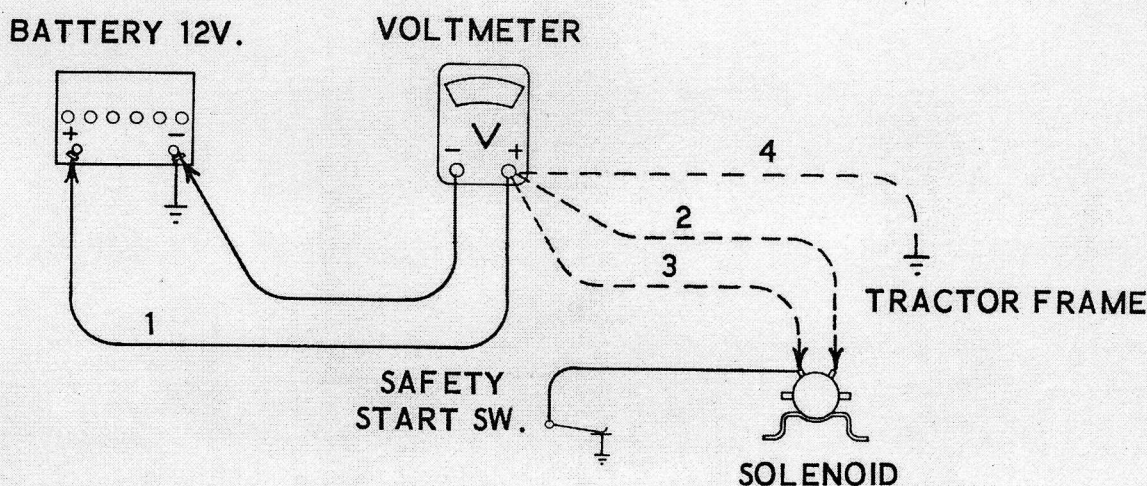

Figure 6
1. Connect red voltmeter lead to battery positive terminal, black to battery negative #1. Crank engine and record voltage. See Figure 6.